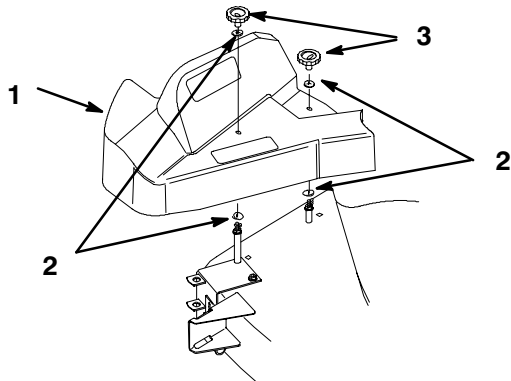

Figure 15
- 7. Install the blower belt cover using (4) washers and (2) knobs (Fig. 15).